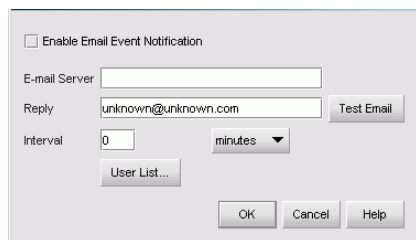

Figure 49: E-Mail Event Notification Setup dialog box
1. At the HAFM main page, choose **Monitor > Event Notification > E-Mail**. The E-Mail Event Notification Setup dialog box displays, as shown in Figure 49.